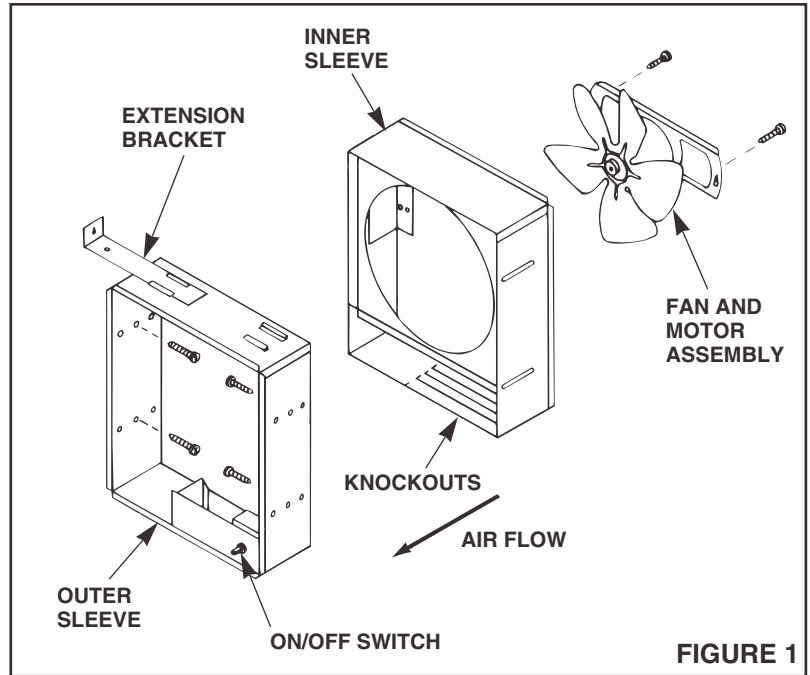

FIGURE 1
- Remove four (4) screws to separate outer sleeve from inner sleeve.
- Refer to Figure 1.** Loosen two screws and remove fan and motor assembly from adjustable inner sleeve.